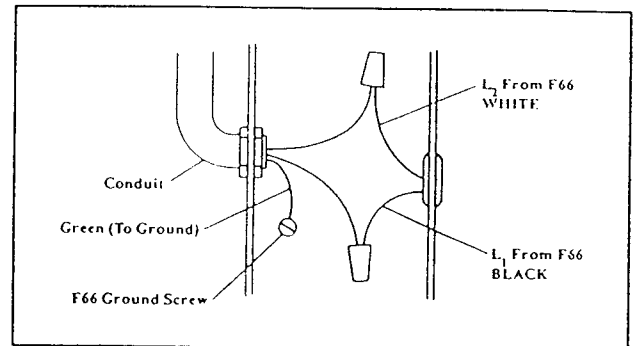
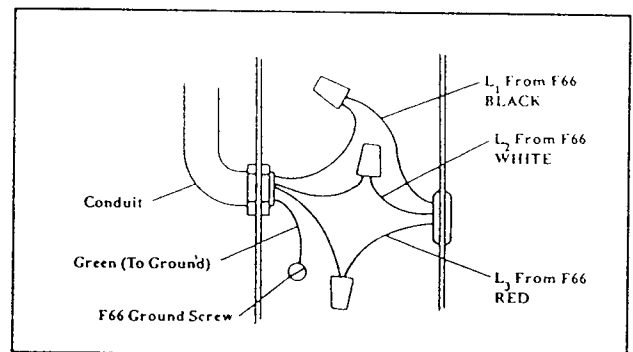

FIGURE 14 - M68 Single phase
FIGURE 15 - M68 Three phase
3. Use wire nuts to make connections in wiring compartment. See Figure 14 for single phase models. See Figure 15 for three phase models.